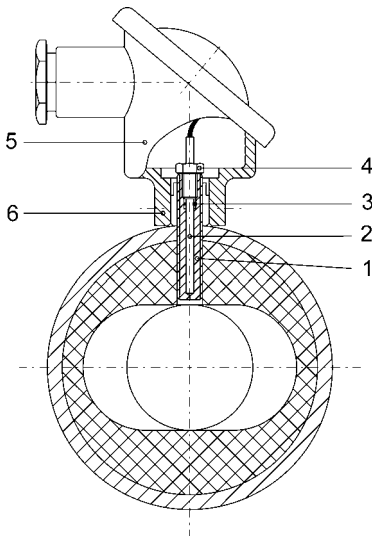

Figure 2: ATLS-T1 Sensor system
- Screw in the sensor sleeve (section 1, figure 2) until just before internal contour of the stator. The precise screw-in depth can only be carried out later.